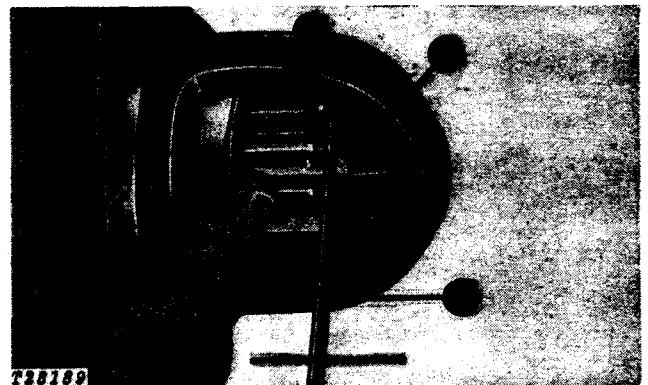

Fig. 15-Checking Pinion Clearance
Push the pinion (1) back toward the commutator end as indicated by the larger arrow in Fig. 15, to eliminate slack movement.